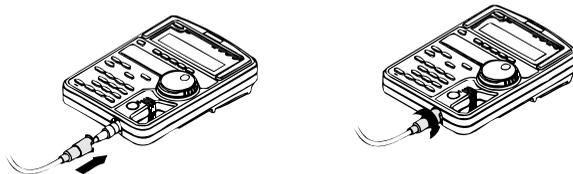

Fig.2-2 Connecting the Remote Controller Cable
1. Connect the controller cable connector with a protection cover to one of the two connectors (see Fig. 2-2) in the remote controller. Exercise care that the orientation of the connector is correct.